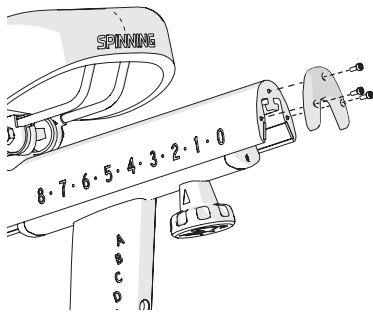

Figure 8
- 3. Attach the seat slider end cap ❸ using three bolts ❸ (Figure 8) and fully tighten with the hex key ❷.